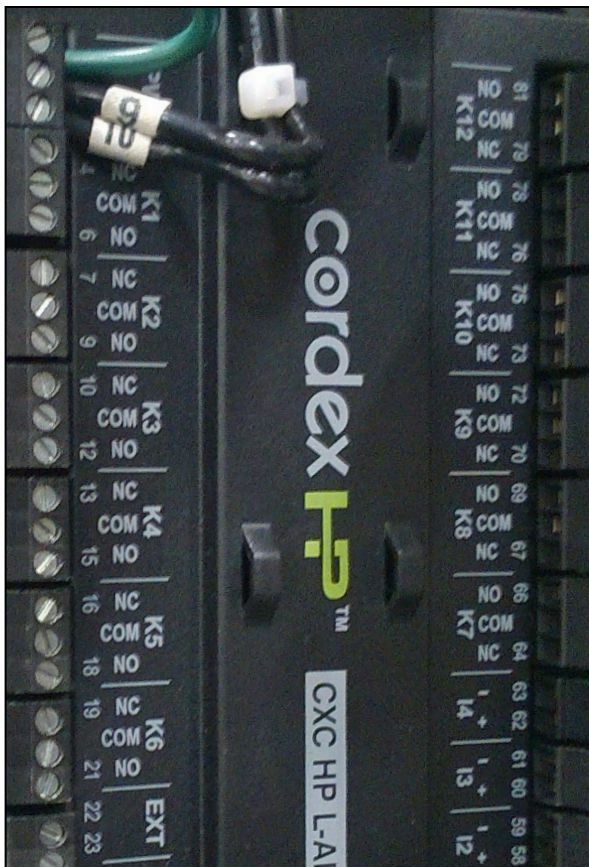

Figure 29 — Alarm Relay Pinouts
1. Use the Form C relay contacts on the L-ADIO to extend various alarm or control signals to an external site monitor. Figure 29 shows the L-ADIO module layout table F lists the factory default settings.